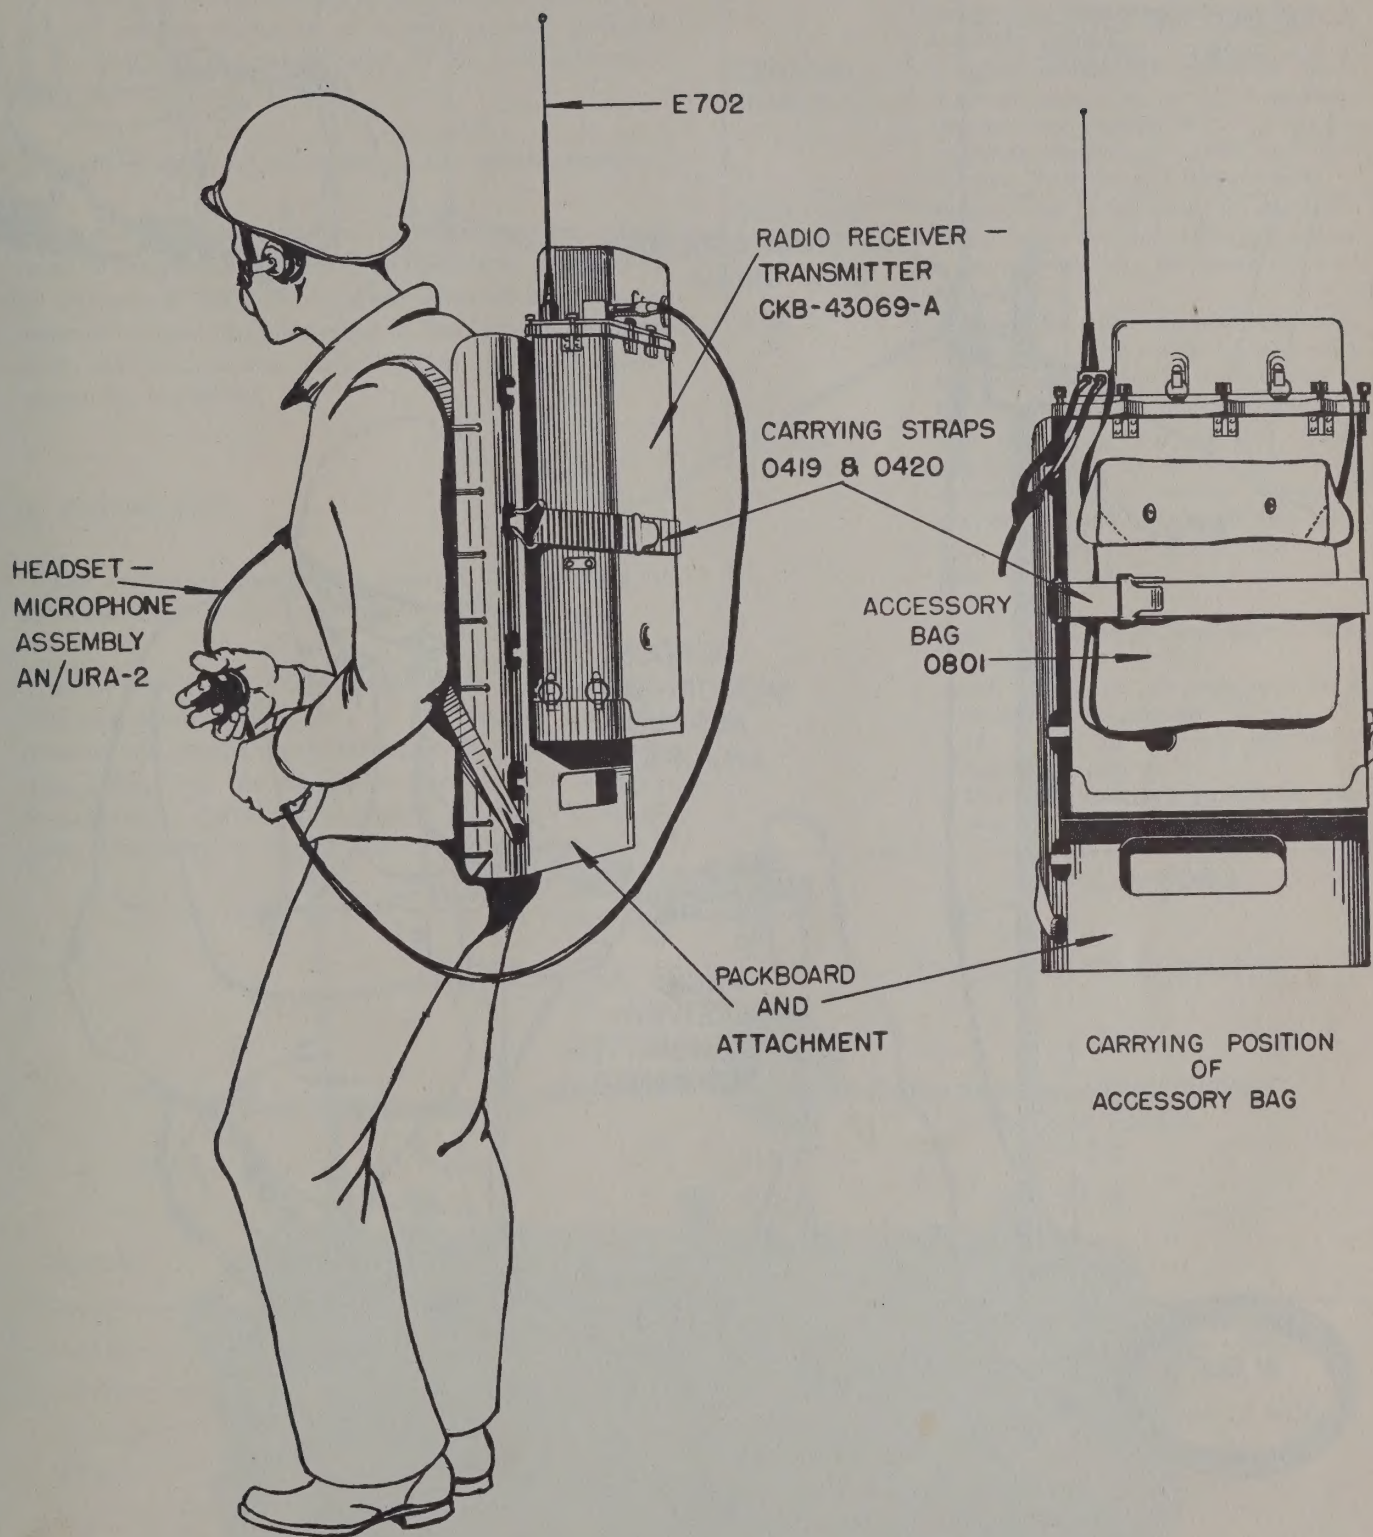

Figure 4-4. Packboard Operation of MAW-1 Equipment
b. MOUNTING ON PACKBOARD. (See figure 4-4 and table 4-1.)—If the Receiver-Transmitter is to be carried by packboard, place the packboard on the ground with canvas side down and clip the attachment bracket on the plywood board at the second opening from the bottom. Place the Receiver-Transmitter unit on the packboard with the antenna side of the carrying case down and with the bottom of the carrying case resting against the attachment bracket. If the unit is positioned correctly, the control panel will extend just beyond the top edge of the packboard. The two keepers